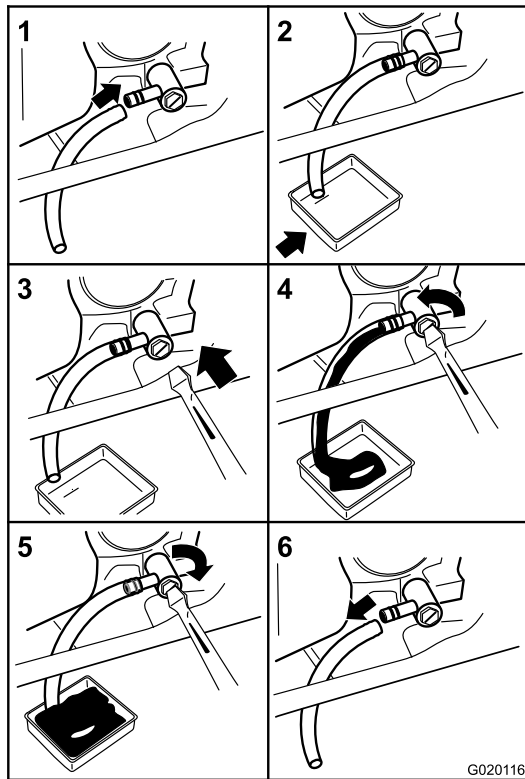

Figure 32
3. Stop the engine, remove the key, and wait for all moving parts to stop before leaving the operating position (Figure 32).